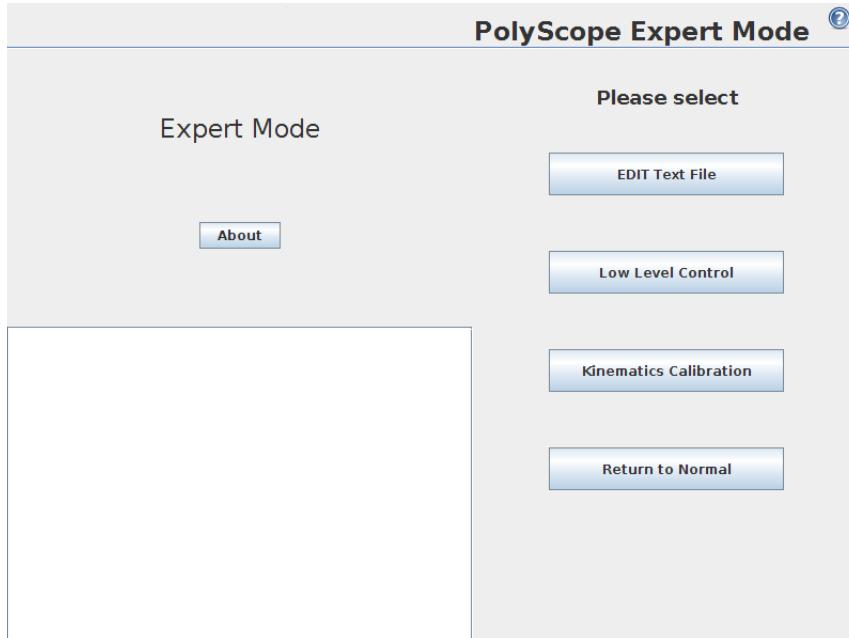

Figure 1.2: Select "Kinematics Calibration" in "Expert Mode" to enable the calibration functionality.
The starting point for the steps of the tutorial is a screen that looks like Figure 1.2. The steps are as follows:
- (1) The functionality can be enabled in the *Expert Mode* on the controller screen by pressing the "Kinematics Calibration" button as illustrated in Figure 1.2.